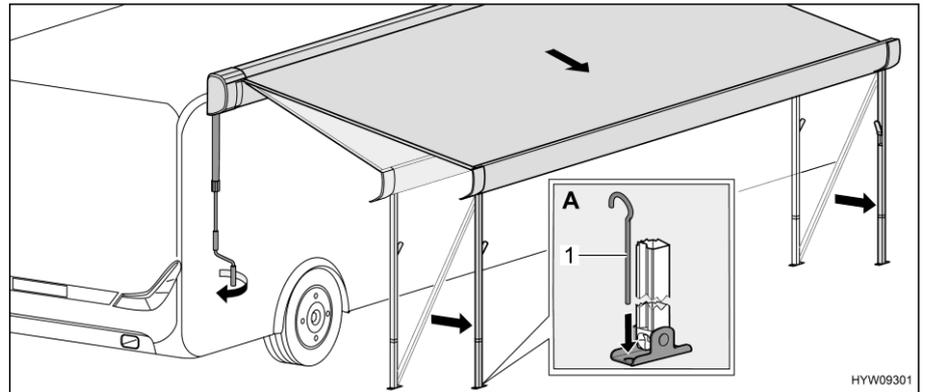

Fig. 16 Bringing awning into end position
- Fix the support legs to the floor with tent pegs (Fig. 16,1) (Fig. 16,A).